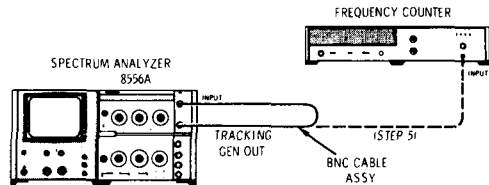

Figure 4-2. Marker Accuracy Test Setup
- Connect equipment as shown in Figure 4-2, connecting TRACKING GEN OUT to analyzer INPUT with BNC cable.